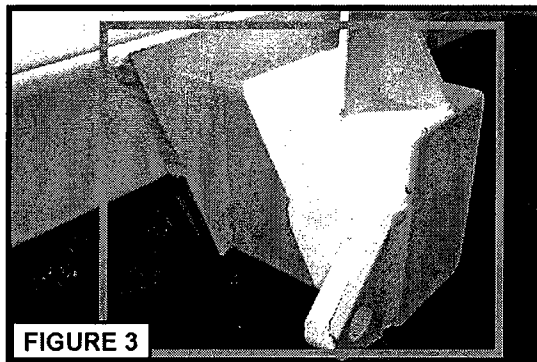

FIGURE 3
Step 3 (Figure 3)- Inspect all welds attaching the front lower dump cylinder mount to the scissors top frame assembly.